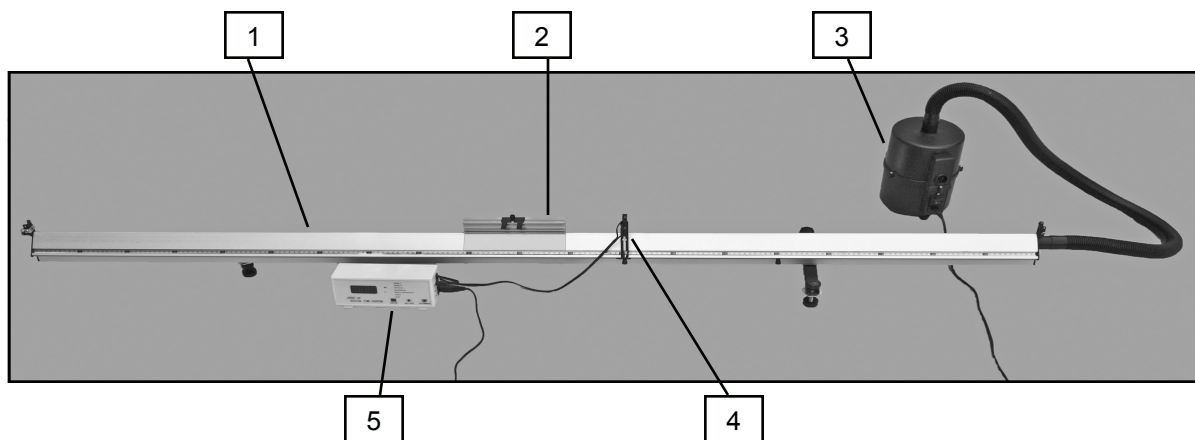

Figure 1
The 2-Meter Air Track with Accessories is designed for students to investigate speed, acceleration and force in linear motion, momentum and energy in collisions, and some characteristics of harmonic oscillators. The air cushion between the track and the gliders reduces the friction to a very low (but measurable) value, increasing the accuracy of the experimental results. The system consists of a uniform air track (1, *Figure 1*) with 2 meters of usable length and a scale along one side, a set of gliders (2—four are provided), an air source (3) that provides a constant stream of air into the track to support the gliders, a measuring system with photogates (4—two are included) and a microprocessor-controlled digital timer (5).